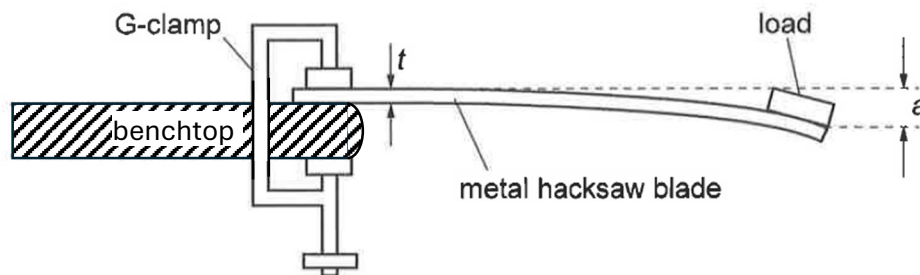

Fig. 3.2
When one end of the blade is fixed and the other end is loaded, the loaded end will move downwards, as shown in Fig. 3.2.
- (i) Wearing safety goggles, set up the apparatus as shown in Fig. 3.2.
1. Set up as shown in Fig 3.2 with mass  $M = 50$  g.